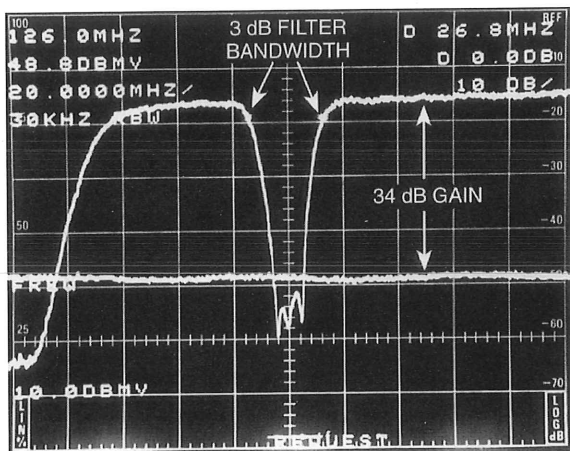

Figure 35. Swept response of UHF/VHF/FM Amplifier with the FM trap enabled.
4. A line similar to the lower trace in Figure 35 appears. The line represents the input to the DUT as a function of frequency, including any response variations due to the cables, spectrum analyzer, or tracking generator. Save the result in register A.
7. The markers can be used to measure various aspects of the display. For example, in Figure 35 the markers have been positioned to measure the 3 dB bandwidth of the FM trap (in this case, the filter is a band-reject filter).
Figure 35 shows the response of an inexpensive UHF/VHF/FM Amplifier with the FM trap enabled.